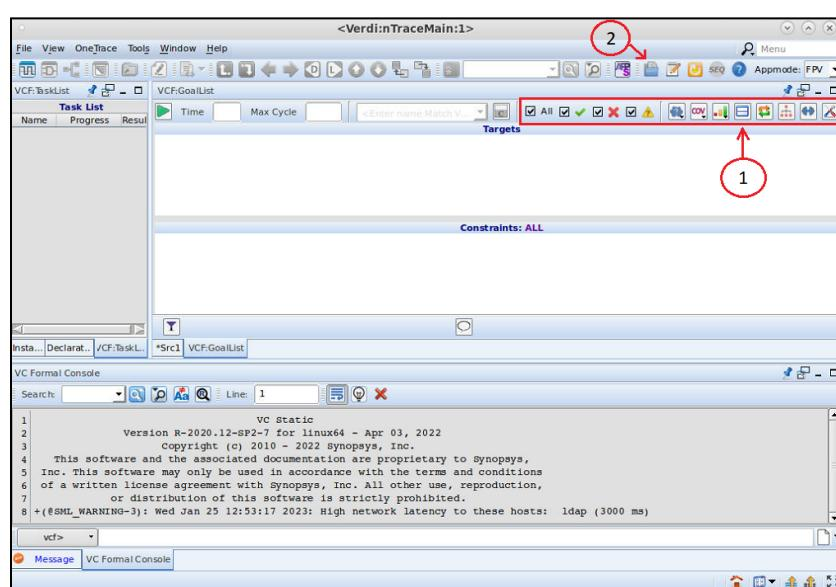

Figure 2.2. VC Formal GUI introductory screen.
You should then see the VC Formal GUI as shown in *Figure 2.2* below. You can toggle between showing Targets, Constraints, or both Targets and Constraints window by clicking the blue box icon in the upper right-hand of the application (1).
Then load a TCL script by clicking on the  icon (2) as shown in *Figure 2.2*.